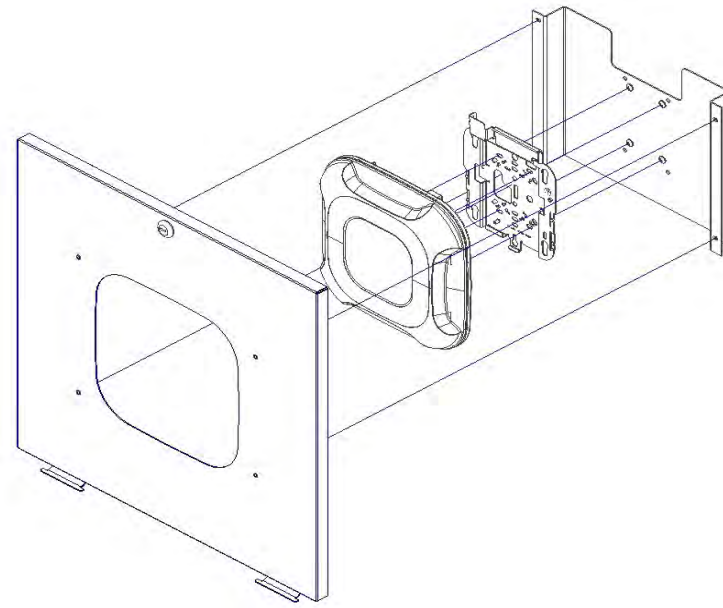

Figure 6
Step 6 – Attach the Cisco AIR-AP-BRACKET-2 to the Oberon mounting plate using four (4) #8-32 screws. The Cisco mounting bracket should be aligned so that the data cable will face towards the cutout in the enclosure's mounting plate (Ref. Figure 6).
Step 7 – Once the Cisco mounting bracket has been installed, attach the equipment cord to the Cisco AP. Attach the Cisco AP by sliding it onto the Cisco mounting bracket until access point locks in place (Ref. Figure 6).
Step 8 – The door assembly is completed by attaching the previously assembled mounting plate assembly to the enclosure door. Place the slotted holes in the mounting plate over the studs located on the bottom side of the door (NOTE: the mounting plate can only be attached to the door in one direction. If the slotted holes don't match up with the studs in the door, rotate the mounting plate 180°). Once the mounting plate is positioned, secure it in place by installing four (4) #8-32 hex nuts (Ref. Figure 6).
Step 5 – To install the Cisco AP, place the enclosure's door on a flat work surface. Remove the aluminum mounting plate from the door by removing the four (4) nuts that attach the mounting plate. Retain the nuts (Ref. Figure 6).